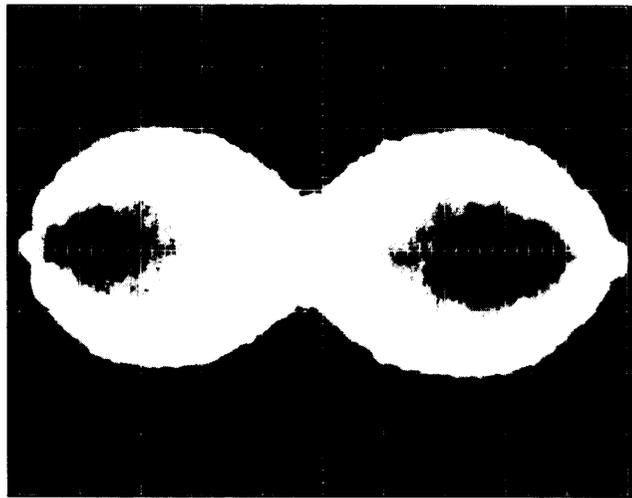

Figure 5-4: Radial Head Alignment Waveform
5. With the scope connected, the pattern shown in Figure 5-4 should be observed.